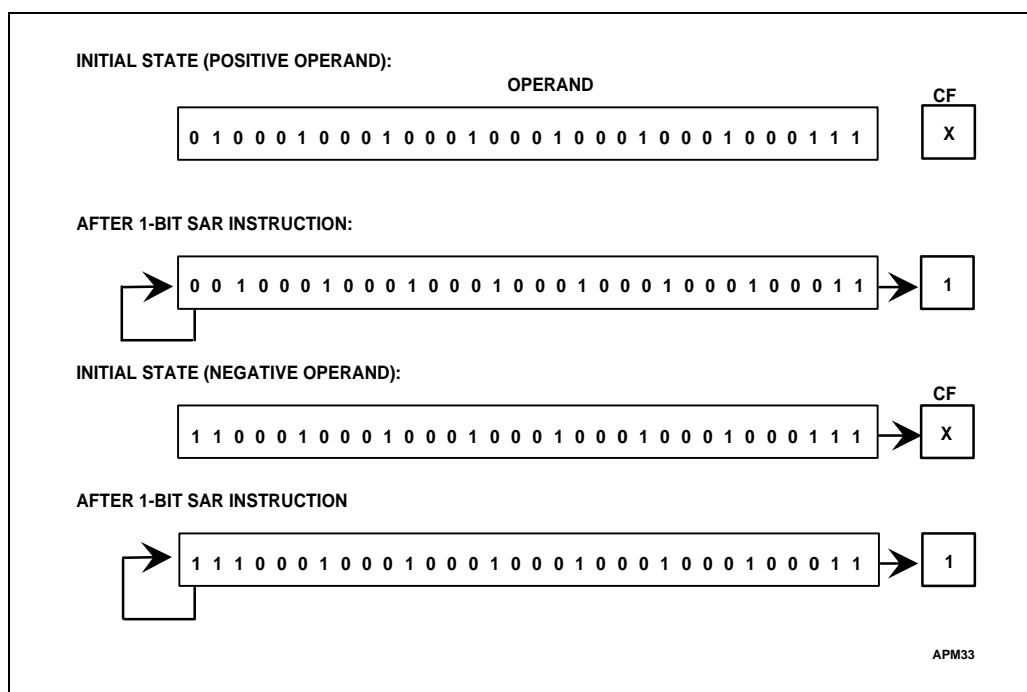

Figure 4-8. SAR Instruction
**SAR (Shift Arithmetic Right)** shifts the destination byte, word, or doubleword operand to the right by one bit position or by the number of bits specified in the count operand (an immediate value or a value contained in the CL register). The sign of the operand is preserved by clearing empty bit positions if the operand is positive, or setting the empty bits if the operand is negative. See Figure 4-8.